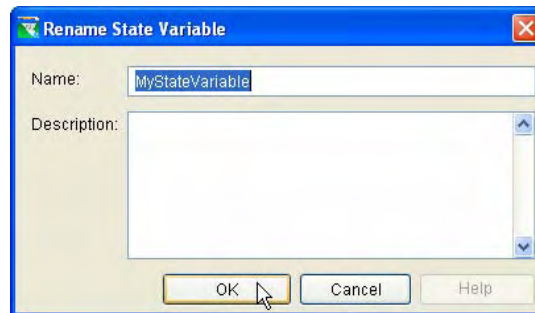

Figure 11.124 Rename State Variable
6. To *rename* a state variable, select **Rename** from the **StateVariable** menu. A **Rename State Variable** dialog will appear (Figure 11.124).